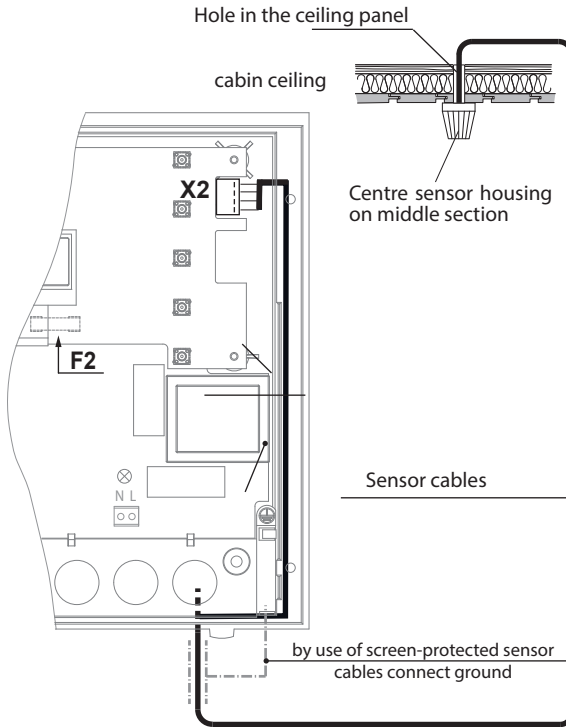

Fig. 10
5. Lead the sensor cables through the right cable intake into the control unit. Install the sensor cables inside the control unit as shown in Fig. 10. Connect the sensor cables as shown in Fig. 11. In order to do this, pull the plug **X2** from the circuit board and plug it back in after the connection.